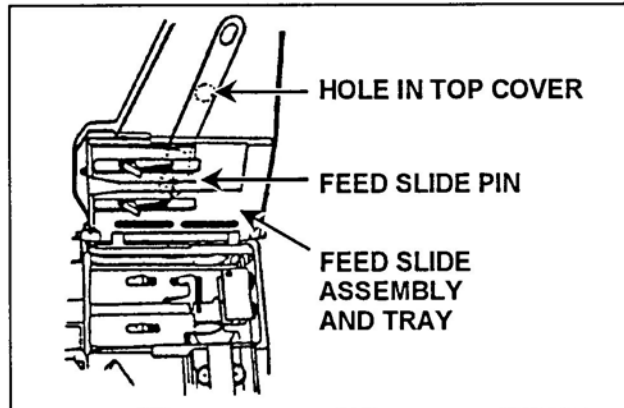

Figure 21. Engaging the secondary drive lever.
- (1) Ensure the feed tray is in the proper place in the receiver.
- (2) Place the top cover on the receiver. Line up the pinholes on the cover with the receiver's lug end and the pinholes on the feed tray.
- (3) Hold the top cover straight up. Insert the top cover pins on both sides. Fully insert the cross pin. Rotate the top cover so that it is fully open.
- g. Engage the secondary drive lever (Figure 21).